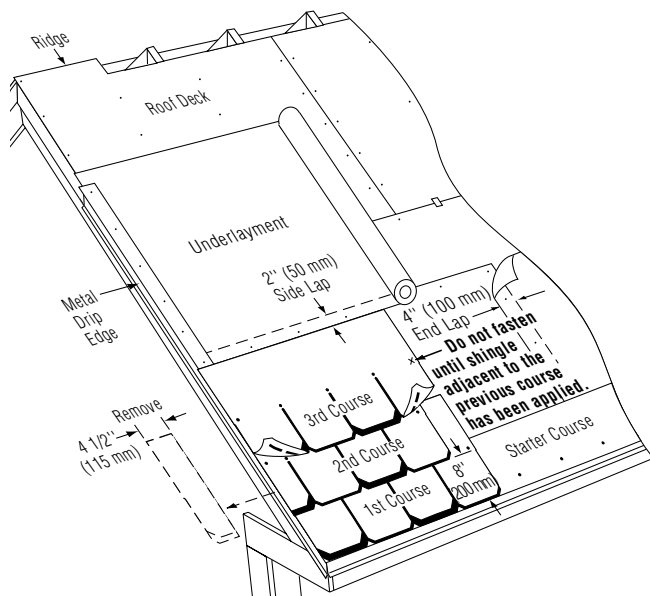

Figure 19-9: Applying the first 3 courses on a standard slope.
**1ST COURSE:** The first course starts with a full shingle at the lower left corner of the roof. Keep the tabs flush with the left and bottom edges of the starter course (Figure 19-9).
**2ND COURSE:** Cut  $4\frac{1}{2}$ " off the left end of a shingle. Apply the remaining larger piece over the first-course shingle, flush with the left edge and leaving 8" of the first course exposed. Snap chalk lines horizontally and vertically, as necessary (Figure 19-9). Be sure to check for proper alignment.